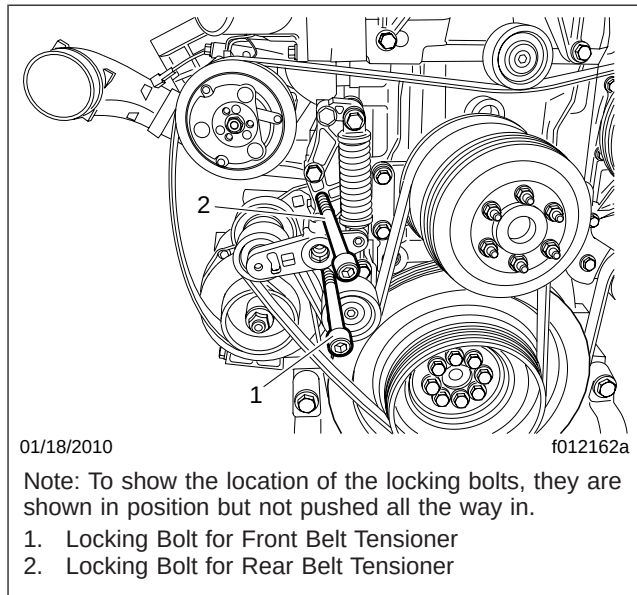

Fig. 5, Position for Locking Bolts
8. Insert a second 10 mm diameter x 80 mm long bolt into the round hole on the idler arm of the rear tensioner as shown in Fig. 5, then push it all the way in. After the bolt is pushed all the way in, the tensioner will be locked in the released position. Remove the wrench from the square hole.